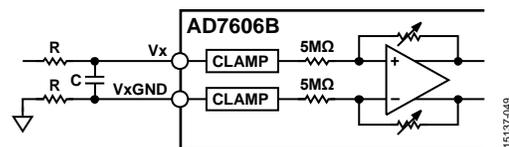

Figure 44. Input Resistance Matching on the Analog Input of the AD7606B
It is recommended to place a series resistor on the analog input channels to limit the current to ± 10 mA for input voltages greater than ± 21 V. In an application where there is a series resistance (R) on an analog input channel, V_x , it is recommended to match the resistance (R) with the resistance on V_x GND to eliminate any offset introduced to the system, as shown in Figure 44. However, in software mode, a per channel system offset calibration removes the offset of the full system (see the System Offset Calibration section).